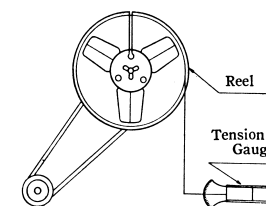

Fig. 12
- Form a loop at the end of No. 3 Tape by sticking tape end with adhesive tape and place the reel on take-up reel holder as shown Fig. 12.
(Adjust with Friction Spring as shown Fig. 12)
Winding Torque for Fast Forward (Fig. 12)